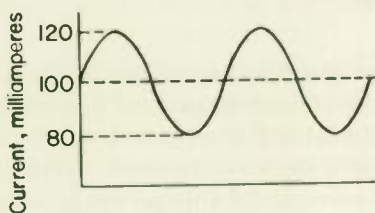

Fig. 23
1. Refer to Fig. 23. The zero-signal output current is (a) _____ milliamperes. The signal current is (b) _____ milliamperes (peak) and (c) _____ milliamperes rms. The change in current from 100 ma to 80 ma was caused by R_1 (d) (*increasing*) (*decreasing*) in value, and the change from 100 ma to 120 ma was caused by R_1 (e) _____. Assuming ideal conditions, the current flowing through C_2 is (f) _____ milliamperes rms and the current through L_2 is (g) _____ milliamperes.